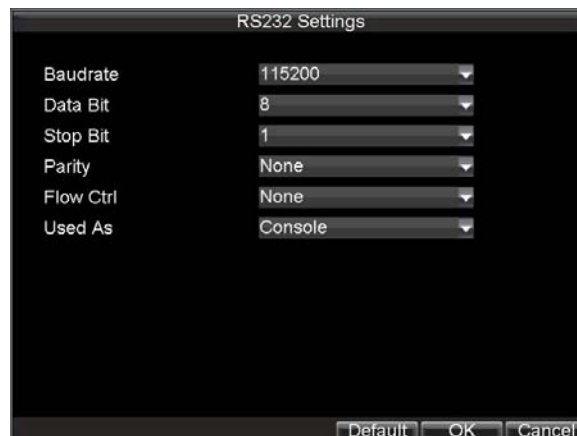

Figure3. RS-232 Settings Menu
1. Click Menu > Setting > RS232 to enter the RS-232 Settings menu, shown in Figure3.